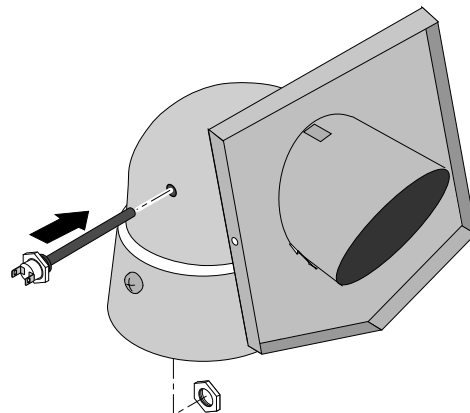

Figure 4-9: Apply 600°F RTV to sealing faces of probe and nut and install probe.
5. Apply UltraCopper® RTV Silicone (supplied) to the sealing faces of the Probe and its nut and install the Probe in the 3/8" hole in the Metal Elbow (Figure 4-9).